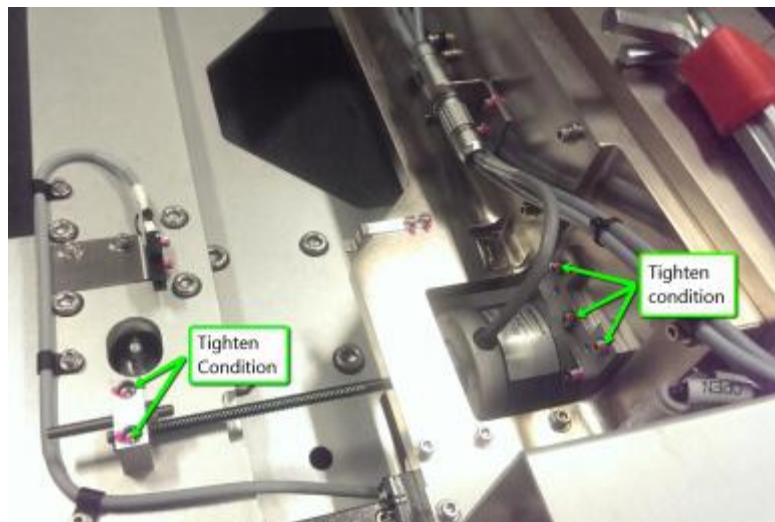

Figure 4 Screws Fastening Condition
7. Check all screws are tight as below Figure 4.